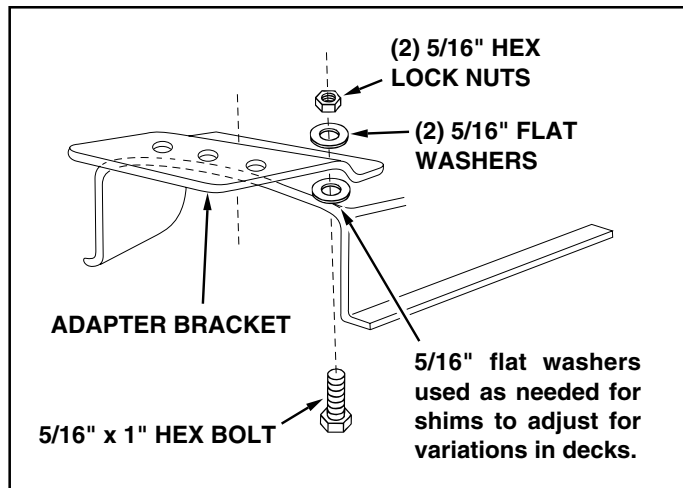

FIGURE 25
6. Assemble the adapter bracket to the deck using two 5/16" x 1" hex bolts, 5/16" flat washers and 5/16" hex lock nuts. See figure 25.
NOTE: It may be necessary to use extra 5/16" flat washers to shim under the bracket next to the deck surface. Ten extra washers have been furnished as shims. See figure 25.